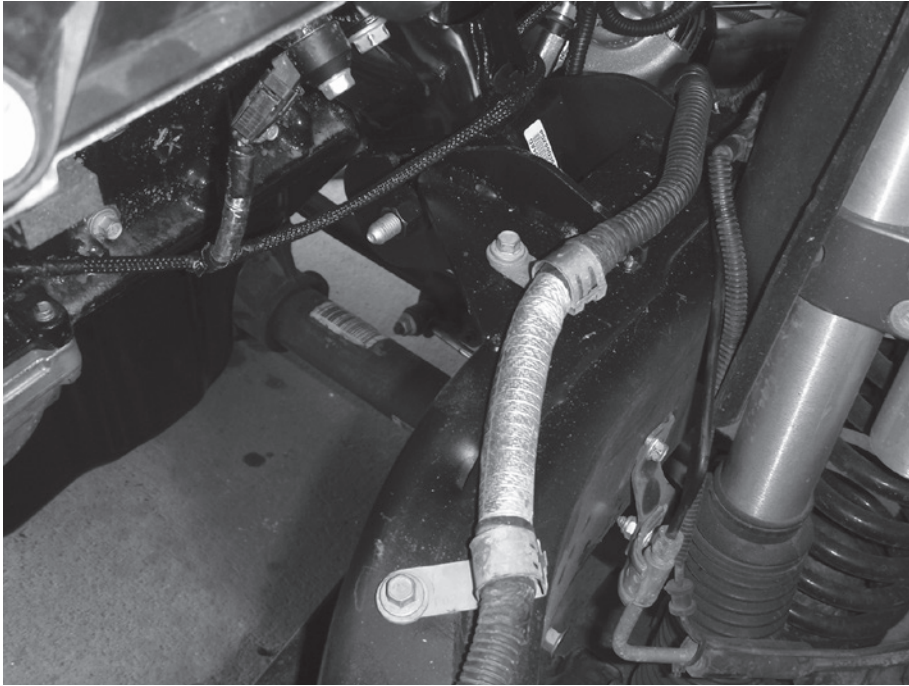

Fig. 2
4. Reinstall the wiring harness mount with the stock hardware (Figure 2.)